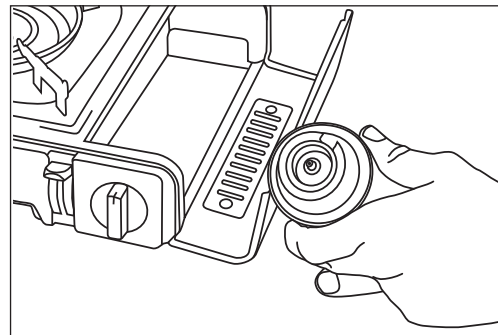

Fig. 2
2. Select 220g Butane gas cartridge certified to EN 417 or equivalent for use with stove (Fig. 2)